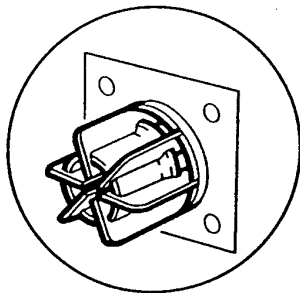

Fig. 53
11. Fit the trim over the flue terminal and mark through the four securing holes. Remove the trim, drill holes 63mm (2 ½ in) deep to accept suitable wall plugs. Fit the trim over the flue terminal and secure using suitable screws (Fig. 53).